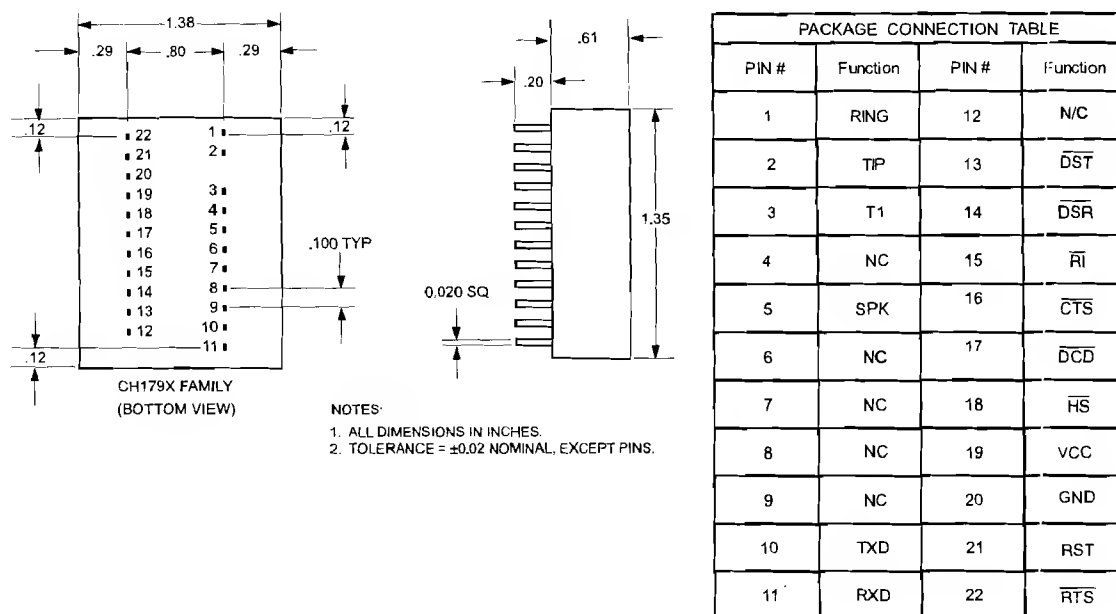

Figure 7. Physical Dimensions & Pin Functions
6) No additional circuitry other than that shown in the following Figure 7 may be connected between the modem module and the RJ-11 jack.